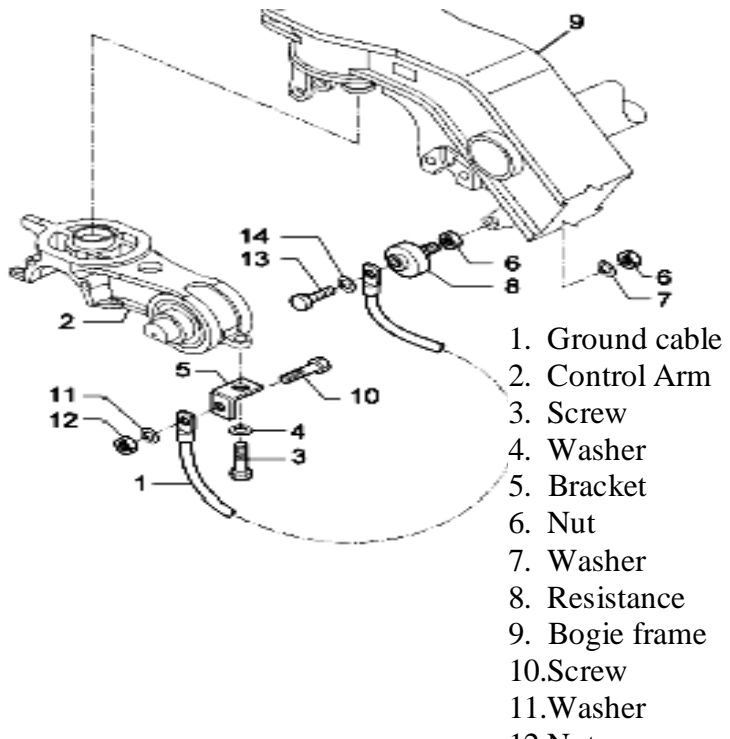

Fig. 3.19 Removing the Ground cables
Remove the ground cables (Fig. 3.19) from the primary suspension (2) extracting the screw (3) and washer (4), which fix the bracket (5) to the control arm and the nuts (6) and washer (7), which fix the resistance (8) to the bogie frame (9). It is then possible to completely separate the bracket (5) from the cable (1) extracting the screw (10) with the washer (11) and the nut (12), and also the resistance (8) extracting the screw (13) and the washer (14).